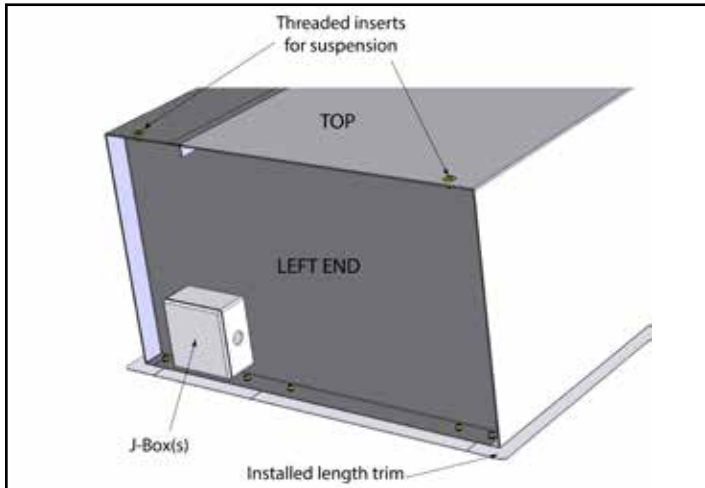

Figure 3
- A. The ARD12 series air curtain enclosure is equipped with four 5/16"-18 threaded inserts on the top of the unit for suspended mounting. **See Figure 3.**
See Figure 3.